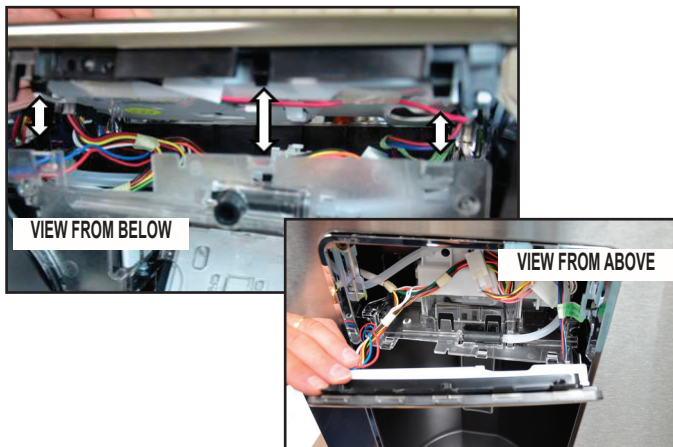

FIGURE 2
2. Pull out and lower UI, then disconnect board from wire harness connectors to remove. See *Figure 2*.